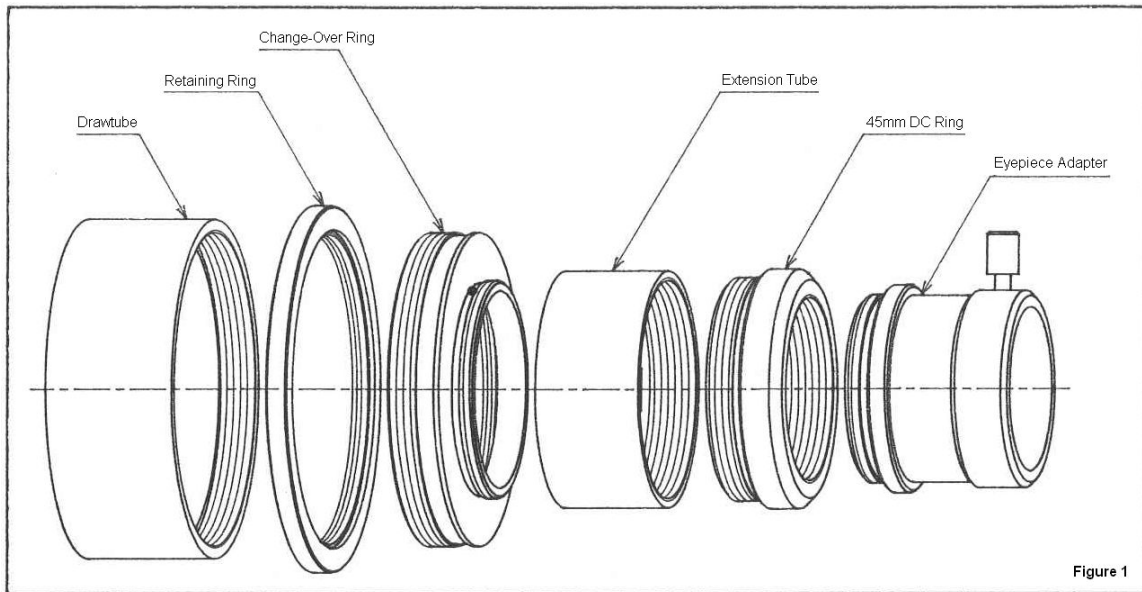

Figure 1
4. Draw a circle with diameter of 55mm on a black paper to make a disc. Open a pin hole of about 1mm to 2mm at the center of the disc. Cut out of the disc and place it into the change-over ring shown in the Figure 1.
- 4 Draw a circle with diameter of 55mm on a black paper to make a disc. Open a pin hole of about 1mm to 2mm at the center of the disc. Cut out of the disc and place it into the change-over ring shown in the Figure 1.